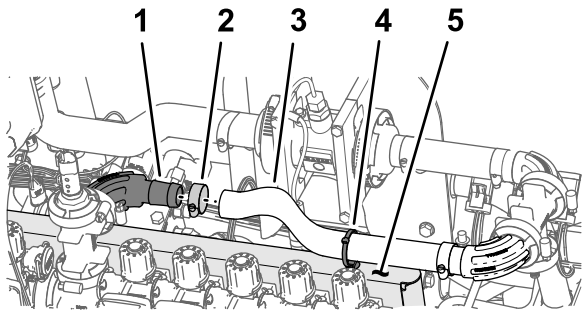

Figure 112
- Assemble the hose (1 x 16 inches) over the 90° flange fitting (1 inch) as shown in Figure 112.
- Secure the hose to the flange fitting with a hose clamp (Figure 112).
- Assemble the cable tie/push-in fastener into the hole at the top of the valve mount as shown in Figure 112.
- Secure the cable tie/push-in fastener (Figure 112) around the hose (1 x 16 inches).